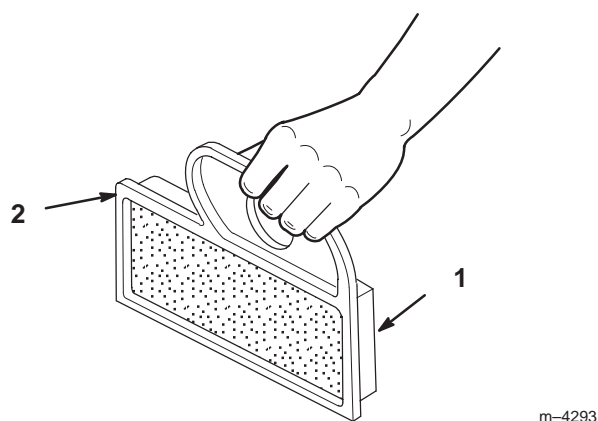

Figure 36
- A. Lightly tap the element on a flat surface to remove dust and dirt (Fig. 36).